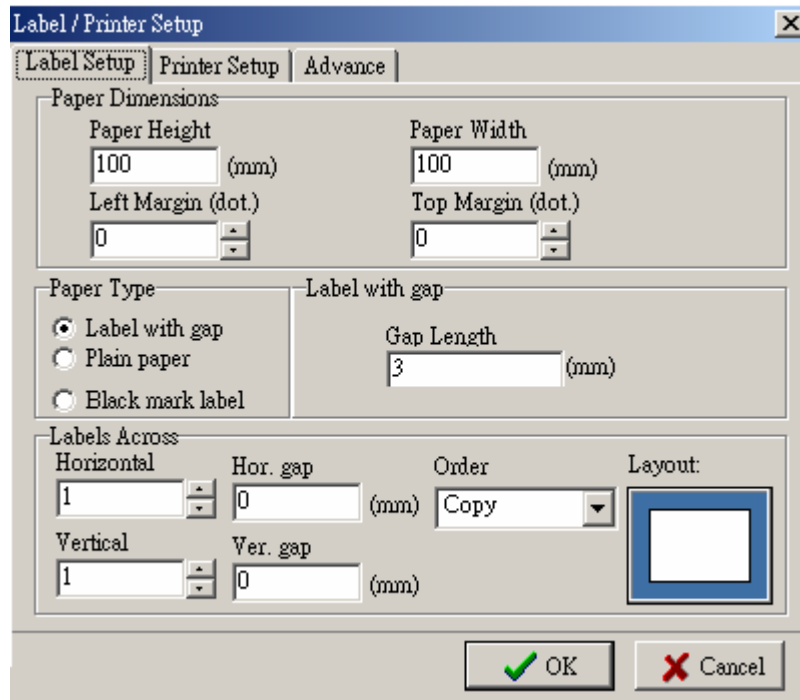

Fig.4.3
1. On the File menu, click the Label Setup. (refer to the Fig.4.3)